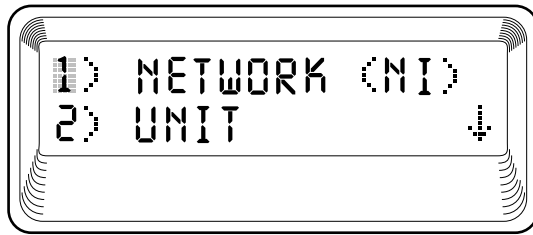

Figure 4-4
Since no other items need to be changed, press **Cancel** to exit the Network(NI) submenu. The display returns to the first two Network (NI) submenu items (see Figure 4-4).